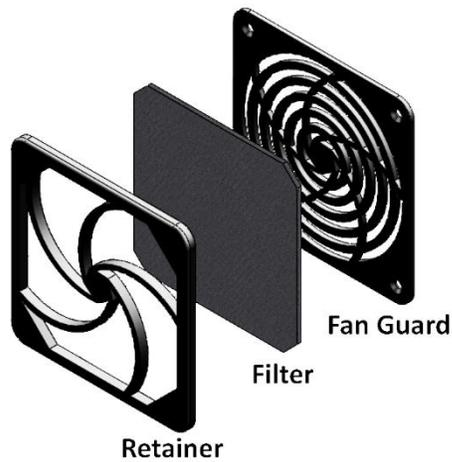

Figure 5.3b: Fan Filter Location
4. Remove the air filter that is in between the Filter Retainer and Fan Guard. See figure 5.3b.